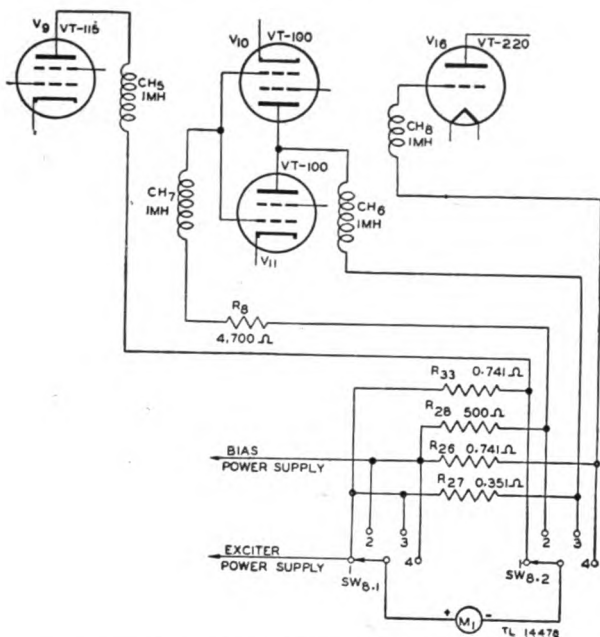

Figure 71. EXCITATION METER switch—functional diagram.
g. EXCITATION METER SWITCH SW₈ (fig. 71). Switch SW₈ is a two-section, four-position switch located on the front panel of the transmitter. It is controlled by a knob marked EXCITATION METER SWITCH. When the switch is set to DOUBLER PLATE, meter M₁ is connected in the plate circuit of buffer-doubler tube V₉. When the switch is set to INT. AMP. GRID, meter M₁ is connected in the grid-return circuit of intermediate-amplifier tubes V₁₀ and V₁₁. When the switch is set to INT. AMP. PLATE, meter M₁ is connected in the plate circuit of intermediate-amplifier tubes V₁₀ and V₁₁. When the switch is set to P.A. GRID, meter M₁ is connected in the grid-return circuit of p-a tube V₁₆.
c. EXCITATION METER M₁ (fig. 71). The excitation meter indicates through a suitable switching arrangement, the buffer-doubler plate current, the intermediate-amplifier grid and plate currents, and the final p-a grid current. The excitation meter is a d-c milliammeter having scales of 0 to 15 ma, 0 to 150 ma, and 0 to 300 ma. When the EXCITATION METER SWITCH SW₈ is set to DOUBLER PLATE, meter M₁ is connected across resistor R₃₃, which is in the plate circuit of buffer-doubler tube V₉. The meter indicates the buffer-doubler plate current on the 0- to 150-ma scale. Resistor R₃₃ is the meter shunt resistor. When switch SW₈ is set to INT. AMP. GRID, meter M₁ is connected across resistor R₂₈, which is in the grid circuit of intermediate-amplifier tubes V₁₀ and V₁₁. The meter indicates the intermediate-amplifier grid current on the 0- to 15-ma scale. Resistor R₂₈ is the meter shunt resistor. When switch SW₈ is set to INT. AMP. PLATE, meter M₁ is connected across resistor R₂₇, which is in the plate circuit of intermediate-amplifier tubes V₁₀ and V₁₁. The meter indicates the intermediate-amplifier plate current on the 0- to 300-ma scale. Resistor R₂₇ is the meter shunt resistor. When switch SW₈ is set to P. A. GRID, meter M₁ is connected across resistor R₂₆ which is in the grid circuit of p-a tube V₁₆. The